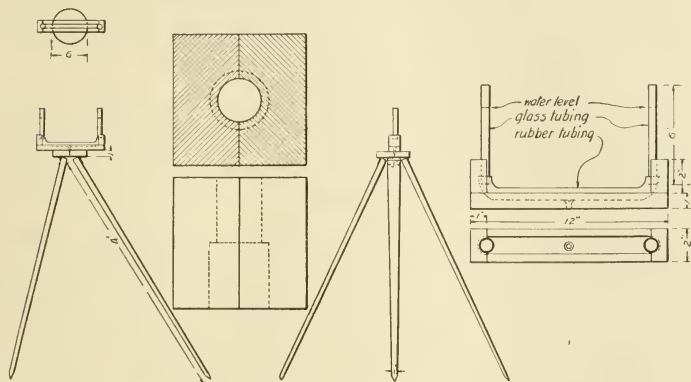

FIG. 81.—WORKING DRAWINGS OF FARMER'S LEVEL.
9. **Boring the holes in the upright blocks.**—When the two short blocks have been properly squared up, fasten them together in the vise, end grain uppermost. Locate the center by drawing diagonals from the corners, and bore the larger hole first, halfway through the block. Reverse the ends and bore the smaller hole the rest of the way, meeting the other hole in the center. (See Fig. 81.)